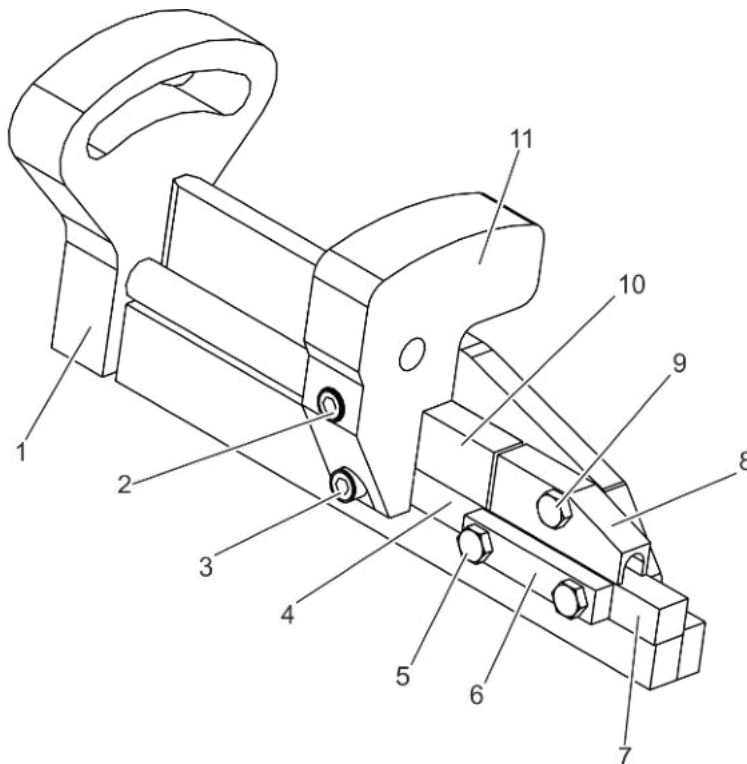

Fig. 104: Electrode carrier slide
2. Remove screws (Fig. 104/2 + 3).
3. Replace contact bridge (Fig. 104/11).
4. Fasten with screws (Fig. 104/2 + 3) to attach the contact bridge to the electrode carrier slide.
2. Remove screw (Fig. 104/9).
3. Replace wire guide (Fig. 104/8).
4. Use the screw (Fig. 104/3) to fasten the wire guide to the electrode carrier slide.
2. Remove screws (Fig. 104/5) and, if necessary, loosen screw (Fig. 104/9).
3. Replace wire guide (Fig. 104/7).
4. Re-tighten wire guide (Fig. 104/7) with the screws (Fig. 104/5) and the screw (Fig. 104/9) if it has been un-tightened.